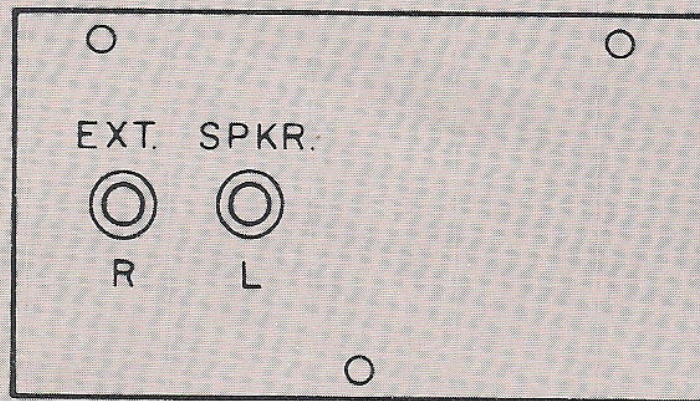

Figure 2A
**EXTENSION SPEAKER JACKS (Fig. 2A)** – If your room will accommodate additional speakers, or if you decide to place extension speakers in another room, Zenith extension speakers Models J1000, J2000, or J3000 (8 ohm impedance) may be purchased from your dealer.